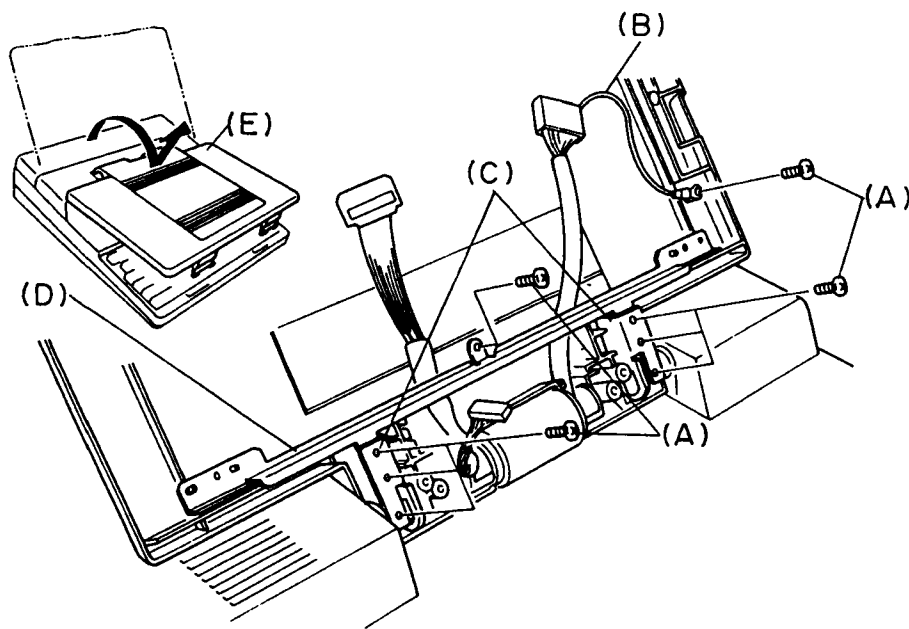

Figure 4-9 Removing the PDP cover assembly
2. Remove the eight screws (A), then remove the GND cable (B), the two reinforce plates (C), the shaft holder (D), and the chassis (D) as shown in figure 4-9.
3. Remove the PDP cover assembly (E) from the system unit while inclining the PDP cover assembly forward.